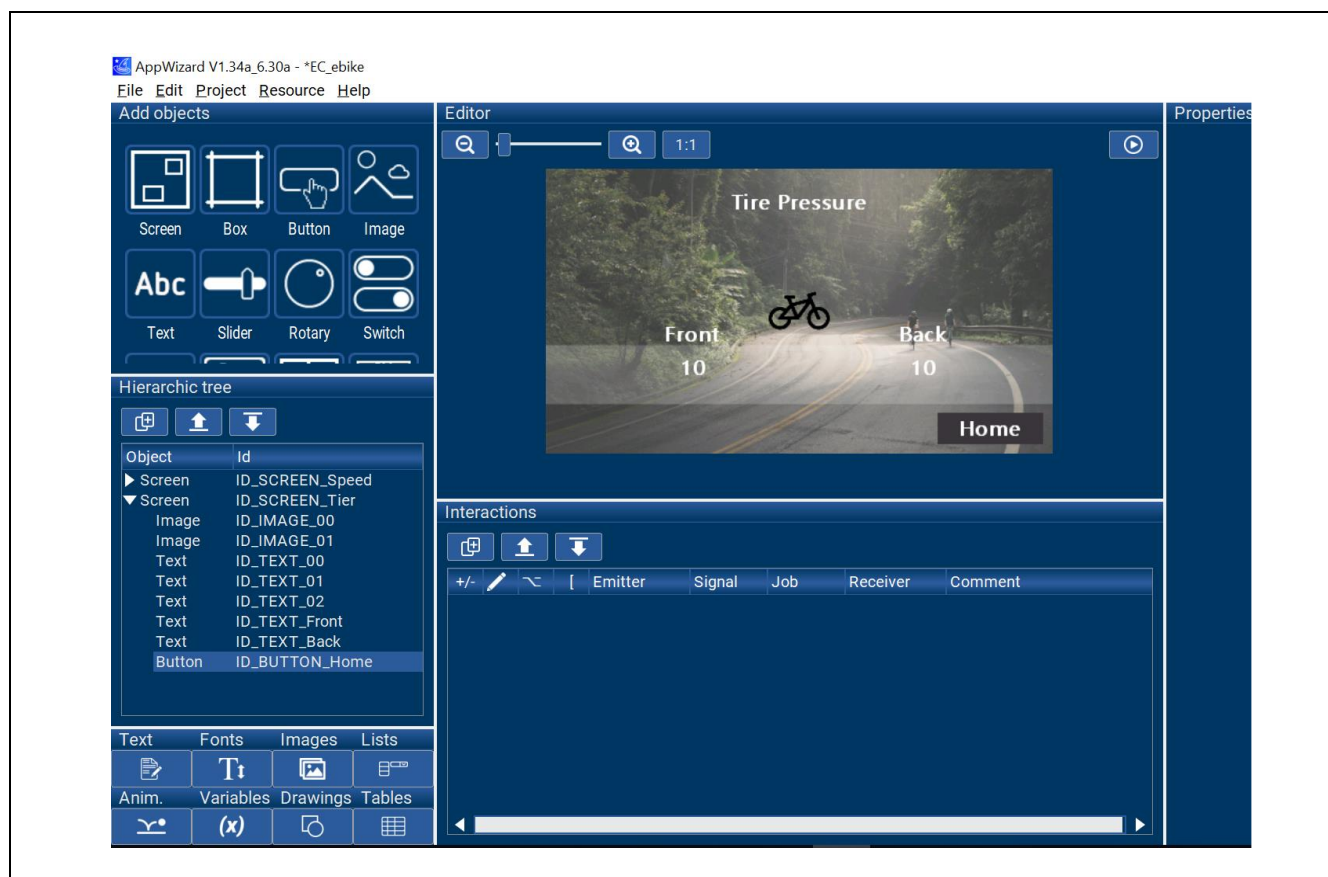

Figure 1-50 Implement a Screen Switching Button
28. Follow the step 16 to add a "Home" button. After completion, the result should be shown as Figure 1-50.